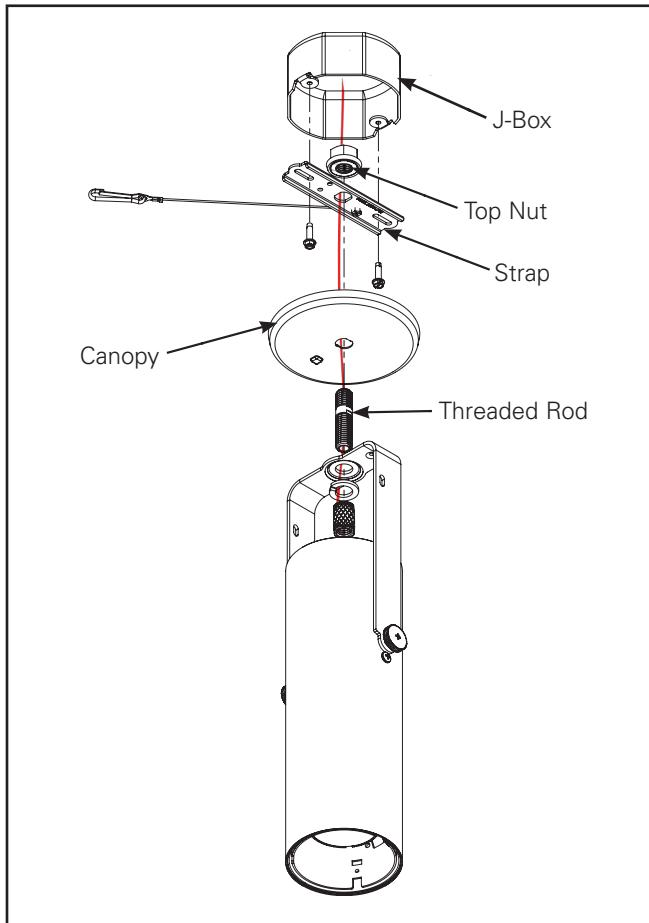

Figure 3
2. Threaded rod should be installed on mounting strap when received with wires coming through the top nut. (Figure 3)